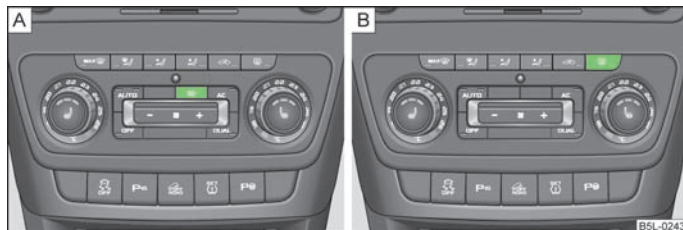

Fig. 34 Switch for windscreen heater/switch for rear window heater
- The windscreen window heater is switched on or off by pressing the switch  » Fig. 34 - A - the indicator light in the switch comes on or goes out.
- The rear window heater is switched on or off by pressing the switch  » Fig. 34 - B - the indicator light in the switch comes on or goes out.